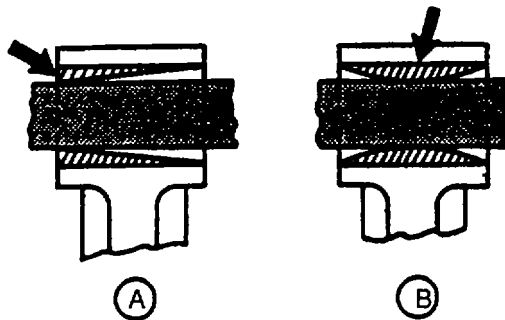

FIGURE 3-154. Checking Piston Pin Bushing
- (2) Using outside micrometer, measure piston pin OD. Replace if not within 1.624 to 1.625 inches (41.27 to 41.28 mm).
- (3) Inspect piston pin bushing for damage or excessive wear. Lubrication hole must be open.
- (4) Compare pin bushing ID with pin Or for specified oil clearance.
- (5) Insert pin from either side of rod bushing. If pin is free on one end, but tight on other, bore could be tapered (A, FIGURE 3-154). If pin enters freely from both sides, but is tight in center, bore is bell mouthed (B). Pin-to-bushing clearance should be 0.0008 to 0.0024 inch (0.02 to 0.06 mm), with a maximum of 0.004 inch (0.10 mm).